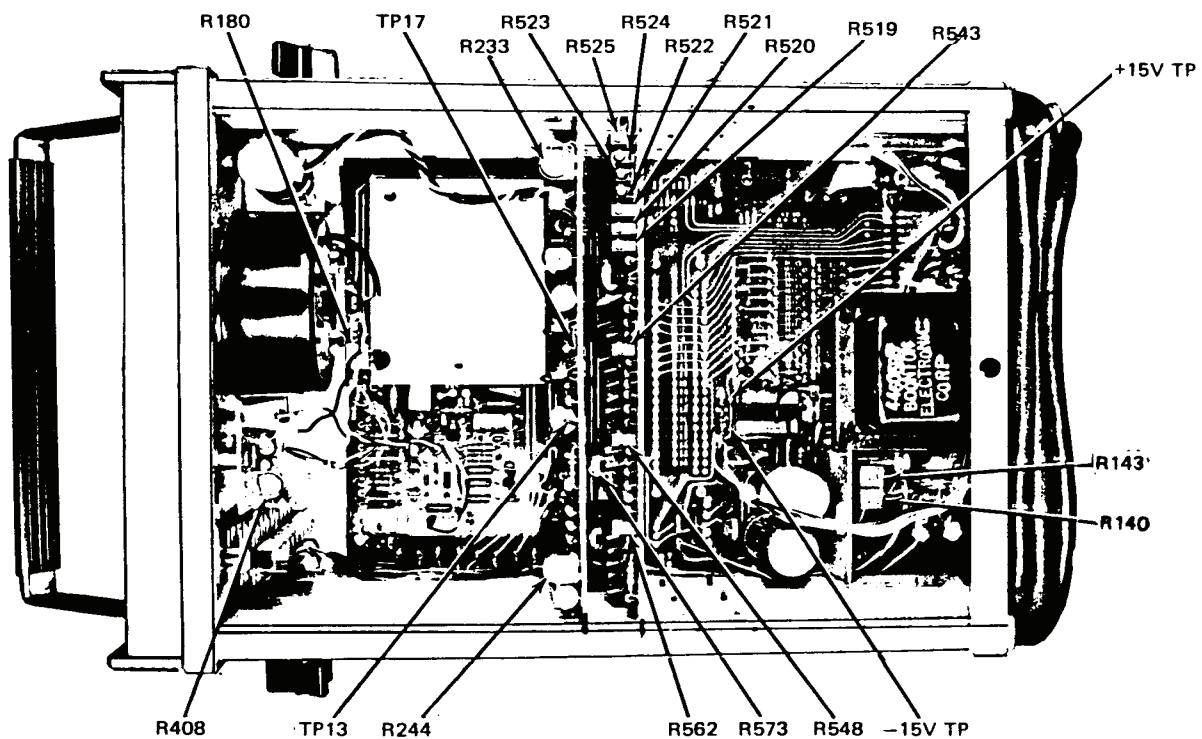
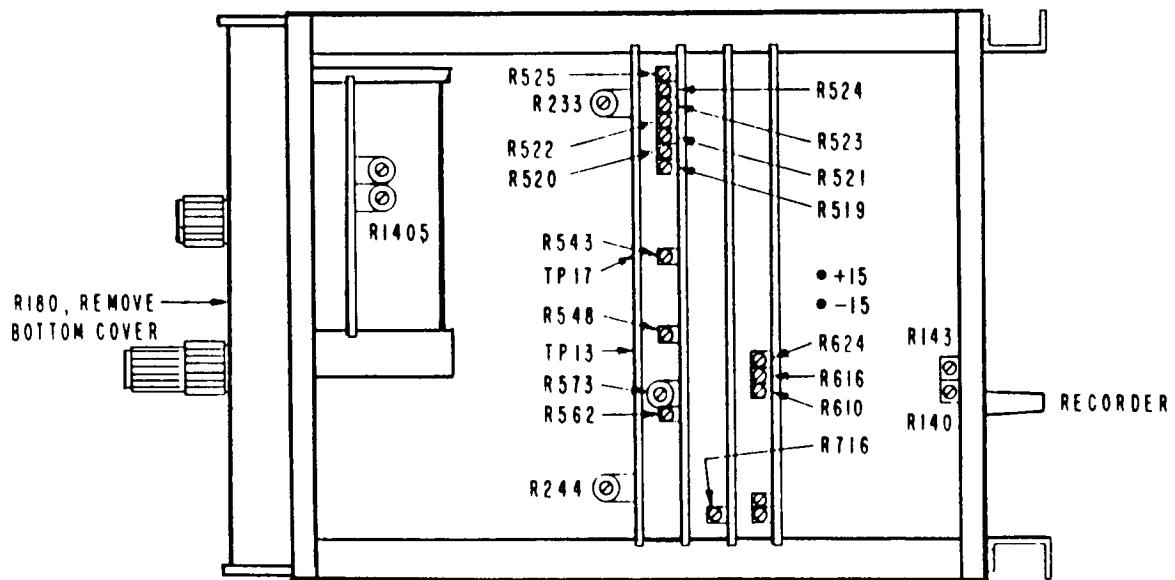

Figure 1. Model 42B - to view.
Figure 2. Model 42BD - top view.
- (1) Adjust position of **CAL FACTOR** knob on shaft so that equal and opposite **CAL FACTOR** indications are obtained when control is set against stops (R).
- (2) Adjust R573 (fig. 1 or 2) for a -31.0 dBm indication on TI meter (R).
- (1) Connect **RECORDER** output (rear panel) to input of true rms voltmeter. For model 42BD, connect multimeter to **RECORDER** output (rear panel).
- (2) Set **CAL FACTOR** control to 0 dBm. This **CAL FACTOR** control setting will be maintained throughout remaining calibration checks at function/arbitrary generator frequency of 200 kHz.
- (3) Set **FULL SCALE** switch to -50 dBm (**OFF-PWR-dBm** switch to **PWR**).
- (4) Adjust **ZERO** control to an average zero indication (downscale) on TI meter (minus sign flashes on and off). True rms voltmeter will indicate 100 mV or less.
- (5) Set **FULL SCALE** switch to -30 dBm. If TI meter (model 42B) does not indicate zero (downscale), perform **b** below. For model 42BD, if multimeter does not indicate 0.0 V dc, perform **b** below.
**b. Adjustments.** Adjust R233 (fig. 1 or 2) for a zero indication (downscale) on TI meter (R). For model 42BD, adjust R233 (fig. 2) for 0.0 V dc indication on multimeter (R).
(1) Adjust function/arbitrary generator output for an indication of 7.07 mV on true rms voltmeter.
(2) Adjust R180 (fig. 1 or 2) for a -3.0 V dc indication on multimeter (R).
- (1) Adjust function/arbitrary generator output for an indication of 7.07 mV on true rms voltmeter.
- (2) Adjust R523 (fig. 1 or 2) for a 10.0 V dc indication on multimeter (R).
- (1) Adjust function/arbitrary generator output for an indication of -30.00 dBm on true rms voltmeter.
- (2) Adjust R408 (fig. 1) or R1405 (fig. 2) for a -30 dBm (1.000  $\mu$ W) indication on TI meter (R).
- (1) Adjust R610 (fig. 2) for a +10 dBm indication on TI meter (R).
- (2) Adjust R624 (fig. 2) for a -40 dBm indication on TI meter (R).
- (3) Adjust R610 (fig. 2) for a 0 dBm indication on TI meter (R).
- (4) Adjust R616 (fig. 2) until TI indicates a 10 dB difference from value recorded in **a** (11) above (R).
- (1) Connect negative edge of frequency counter to **RECORDER** connector on rear panel and positive side of frequency counter to TP13 (fig. 2).
- (2) Connect TI power detector to function/arbitrary generator **Output**.
- (3) Zero TI meter as described in paragraph **7 h** above.
- (4) Set **FULL SCALE** switch to **-30 dBm**.
- (5) Adjust function/arbitrary generator output for a -30 dBm indication on TI meter.
- (6) Set frequency counter to measure period. If frequency counter does not indicate between 10.50 and 10.80 ms, perform **b** below.
**b. Adjustments.** Adjust R244 (fig. 1 or 2) for a 10.65 ms indication on frequency counter (R).
- (1) Connect negative side of multimeter to - (negative) **RECORDER** connector on rear panel, and positive side of multimeter to -15 V TP (fig. 1 or 2). If multimeter does not indicate between -14.9 and -15.1 V dc, perform **b** (1) below.
- (2) Connect positive test lead to +15 V TP (fig. 1 or 2). If multimeter does not indicate between +14.9 and +15.1 V dc, perform **b** (2) below.
- (1) Adjust R143 (fig. 1 or 2) for a -15.0 V dc indication on multimeter (R).
- (2) Adjust R140 (fig. 1 or 2) for a +15.0 V dc indication on multimeter (R).